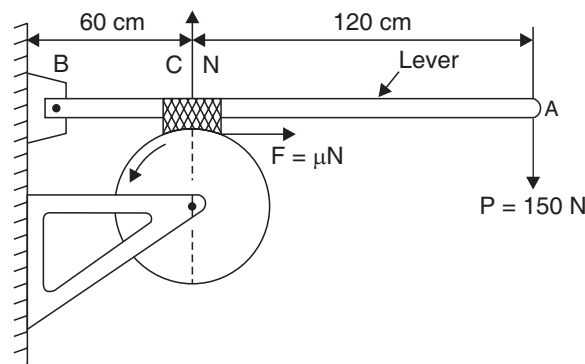

Fig. 6.22
**Example 6.9.** A flywheel of radius 40 cm supported on a bracket and rotating about an axis  $O$ , is braked by means of a lever as shown in Fig. 6.22. The force applied at  $A$  is 15 N. If the co-efficient of kinetic friction between the flywheel and the brake shoe is 0.3, what braking moment will be applied on the wheel with respect to axis ?